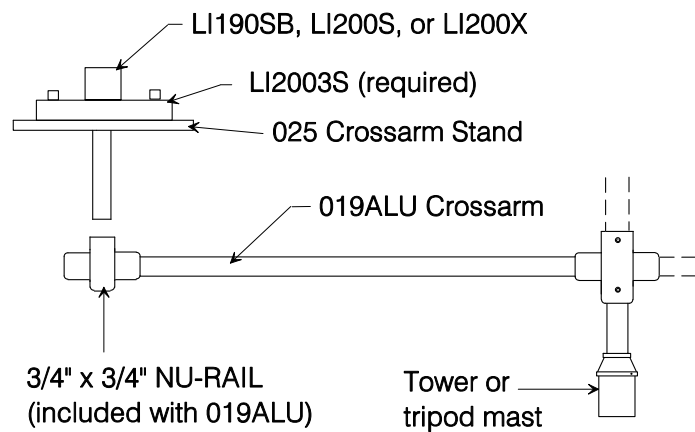

FIGURE 3-3. 025 Crossarm Stand and 019ALU Crossarm
- 5/32" Allen wrench for NU-RAIL (Figure 3-3)